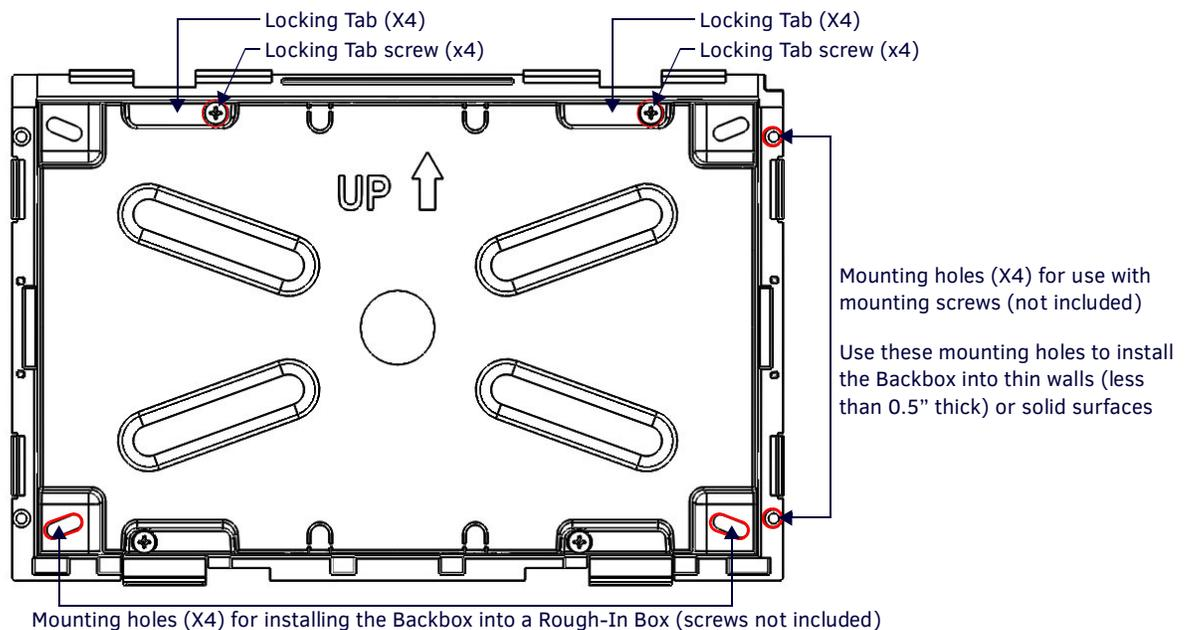

FIG. 21 10.1" MODERO S Backbox (Front View)
- FIG. 21 shows the Backbox for the MSD-1001-L/2:
- To ensure a stable installation, the thickness of the wall material must be a minimum of .50 inches (1.27cm) and a maximum of .875 inches (2.22cm). The mounting surface should also be smooth and flat. For thin walls or solid surfaces, use mounting screws (not included) - see FIG. 21.